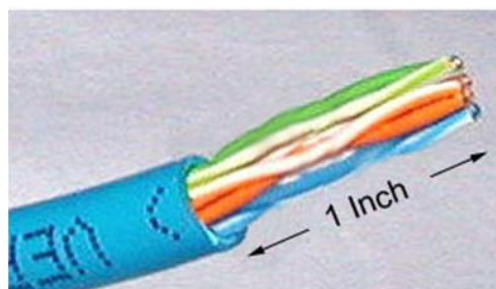

Figure 4 Cut cable end and leave 1 inch
**Step 1** Cut into one side of the patch cable plastic sheath and leave about 1 inch (2.5 cm) from the end of the cut cable (Figure 4).